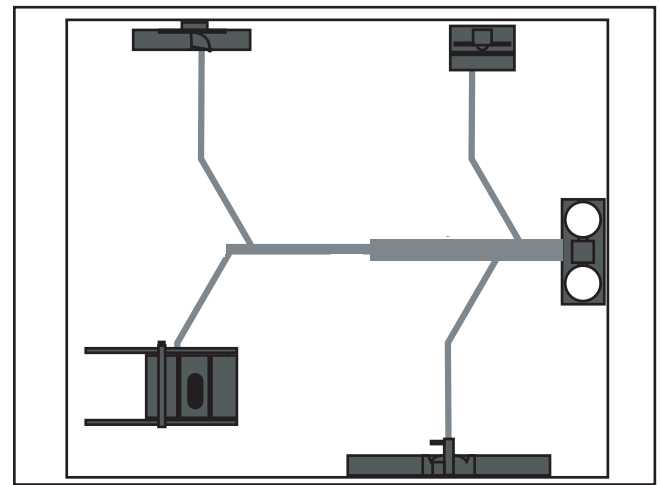

Figure 29. Good duct layout.
2. Ideally, you should design the duct system to have the shortest possible main line and secondary branch ducts. See **Figures 29 & 30** for ideas of good duct layouts vs bad duct layouts.